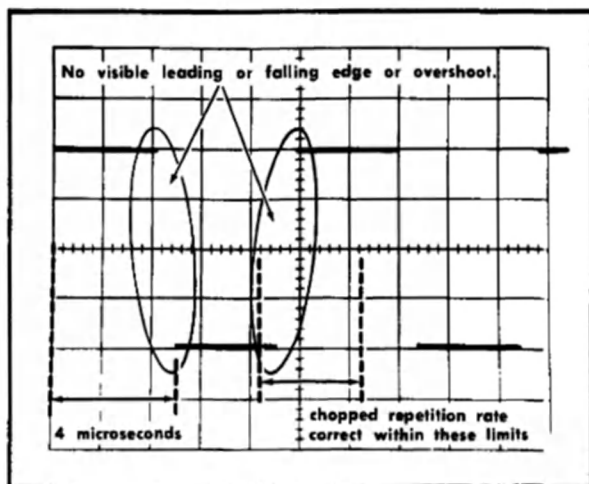

Fig. 5-17. Typical CRT display when checking chopped operation.
- CHECK—CRT display for duration of each cycle between 4.2 and 6.2 divisions (100 kilohertz, $\pm 20\%$; see Fig. 5-17).
d. CHECK—CRT display for complete blanking of switching transients between chopped segments (see Fig. 5-17).